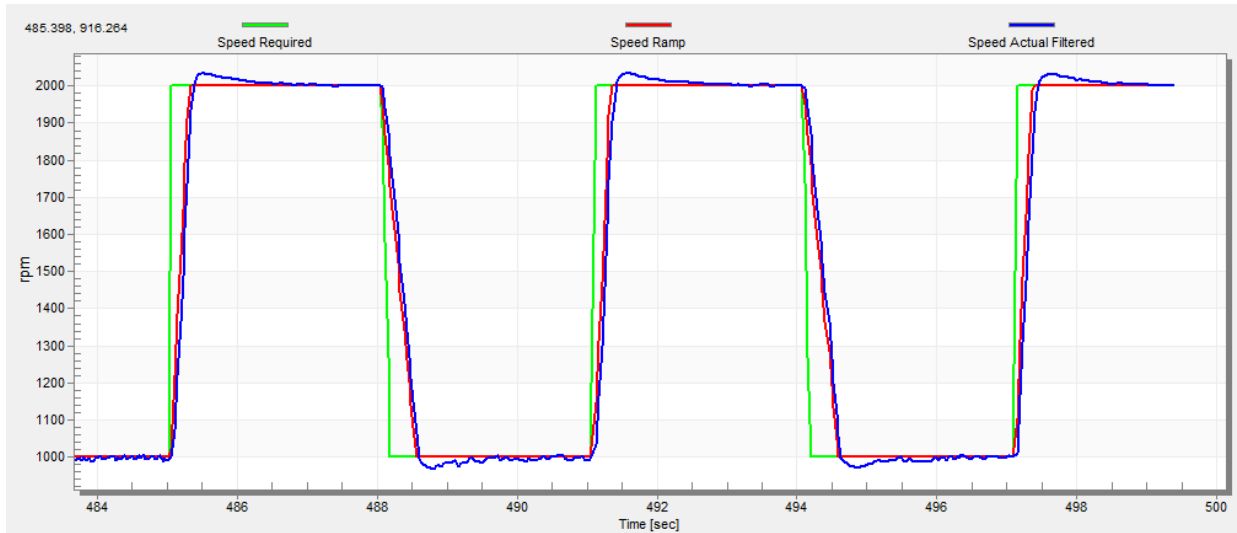

Figure 51. Speed controller response—speed loop response with a small overshoot
- The speed loop response has a small overshoot and the “Speed Actual Filtered” settling time is sufficient. Such response can be considered optimal (see Figure 51).